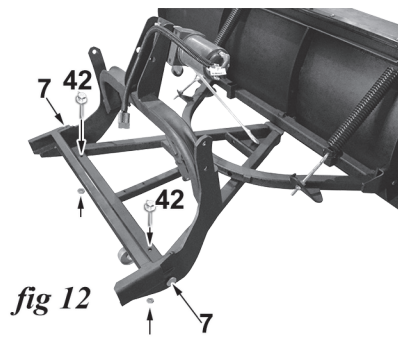

fig 12
8. Attach the main frame to the A frame using the two frame pins (7, fig 12). Lock the pins into the A frame with an M8 x 52 mm gr.8 hex head bolt (42, fig 12) inserted through an 8 mm washer, then the top of the frame at each end and secured with M8 nylock nuts.